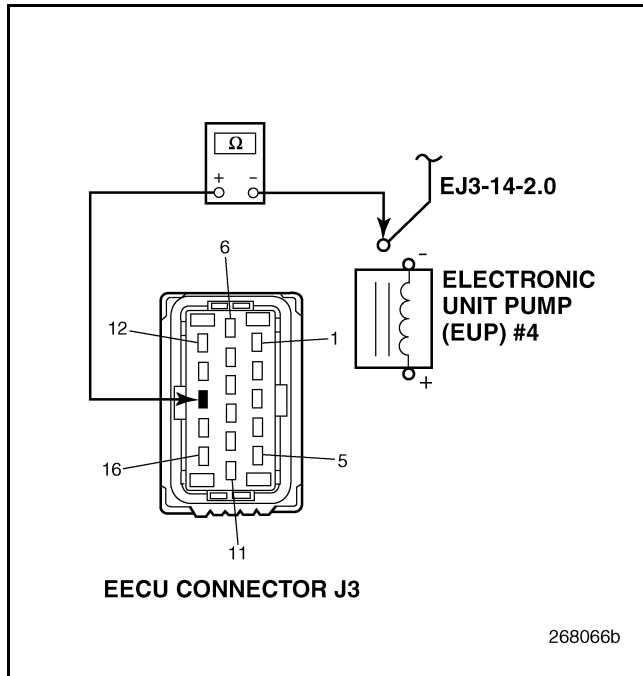

Figure 772
4. Check for continuity between circuit EJ3-14-2.0 at the EUP Solenoid 4 and EECU harness connector J3 pin 14 (see Figure 772).